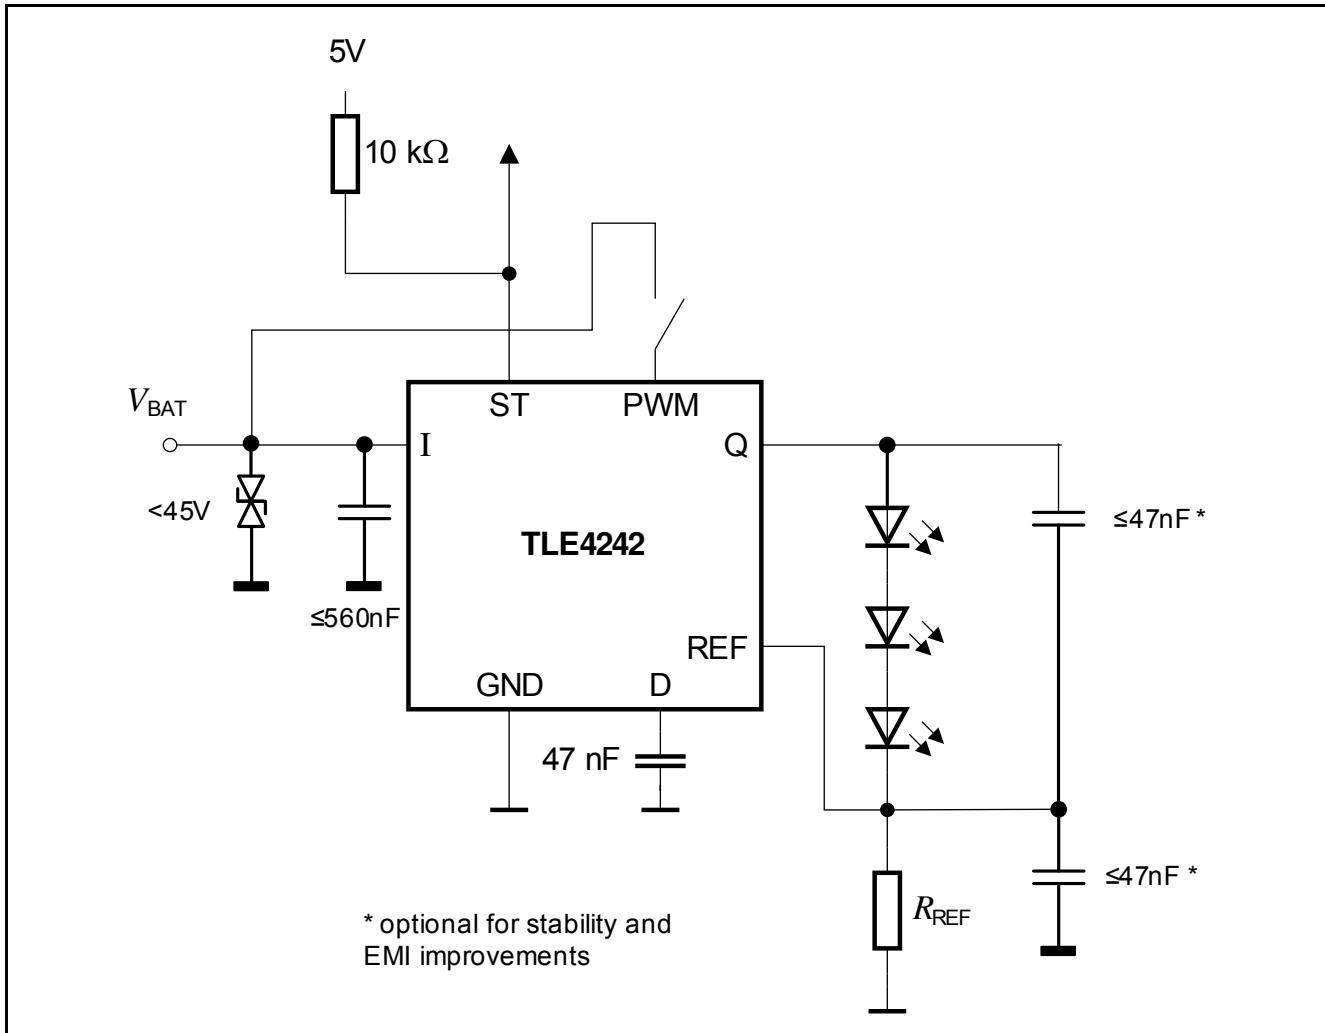

Figure 6-1 Application Diagram
The application example in Figure 6-1 shows a typical application with the TLE4242EJ LED driver. The three LEDs are driven with an adequate supply current adjusted by the resistor R_{REF} . Thus brightness variations due to forward voltage spread of the LEDs are prevented. The luminosity spread arising from the LED production process can be compensated via software by an appropriate duty cycle applied to the PWM pin. Therefore, selection of the LEDs to forward voltage as well as to luminosity classes can be spared. The minimum supply voltage for the application is the sum of the LED forward voltages, the TLE4242EJ drop voltage Minimum drop voltage \$V_{\text{dr}} = V_I - V_Q\$ and the max. voltage drop at the shunt resistor R_{REF} of $V_{\text{REF(max)}}$ according to Reference voltage.
2) $V_Q - V_{\text{REF}}$ equals the forward voltage sum of the connected LEDs, see Figure 6-1